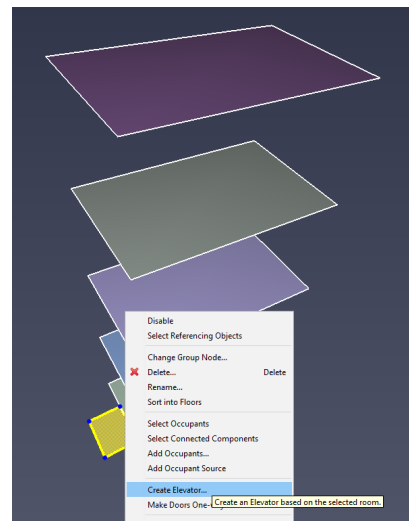

Figure 56. Select Create Elevator in right-click menu
3. Right-click the base room, and from the right-click menu, select **Create Elevator**, see Figure 56. This will show the **New Elevator** dialog as shown in Figure 57.